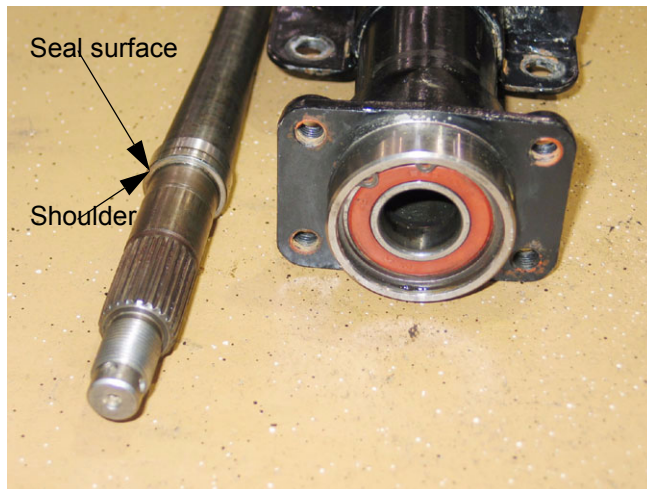

Figure 9.16
- 9.16. The axle shafts should slip-out through the end of the axle tube that was connected to the transaxle housing. See Figure 9.16.